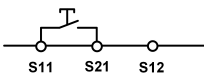

**Fig. 11:**
- For applications according to Fig. 10 and Fig. 11 it must be ensured that the reference potential of the signal generator and the SR7D is the same.
Connect the power supply to A1 and A2 (Fig. 16 or Fig. 10 or Fig. 11).